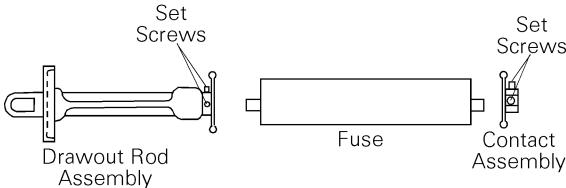

Figure 8. Nonloadbreak fuse replacement.
3. Replace the blown fuse with a fuse of the same rating. To replace the fuse, loosen the two set screws on the draw-out rod assembly and the two set screws on the contact assembly. Remove the fuse and install the new fuse. Tighten the two set screws on the contact assembly and the set screws on the draw-out rod assembly. Figure 8 shows the locations of the parts.